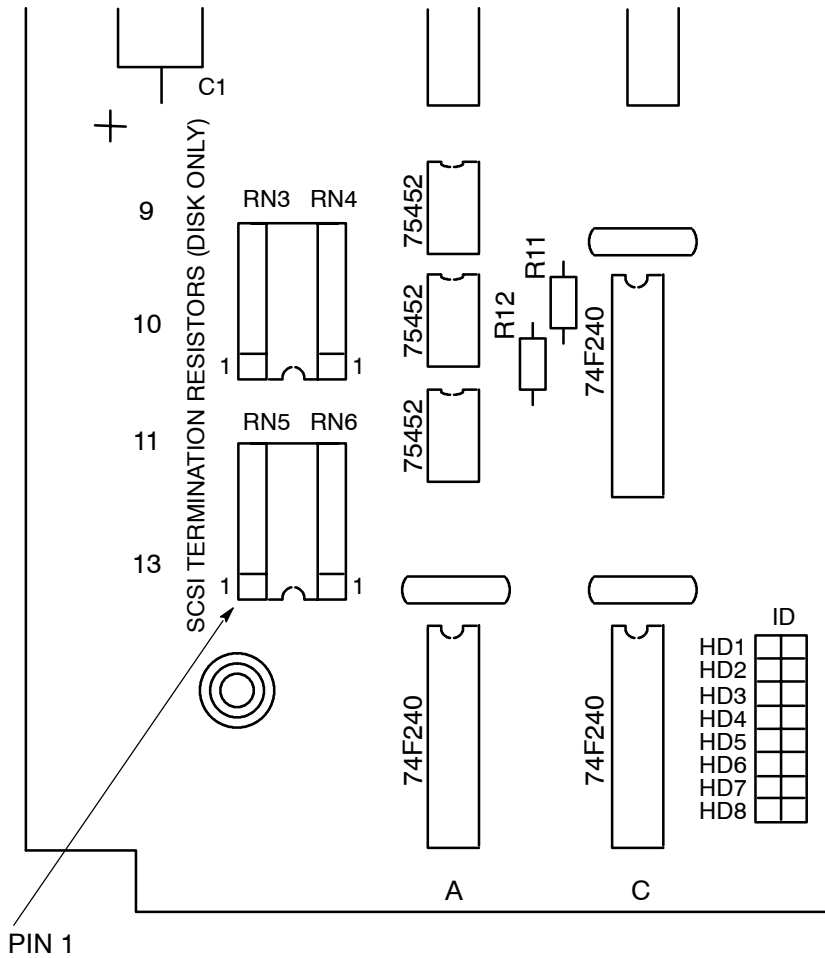

Figure 4.7. SCSI Termination Resistors
- 1 Install 4 SCSI terminator resistors (F/N 19) in the 4 socket locations as shown. A mark (DOT, BAR) at one end of the resistor network indicates Pin1. See Figure 4.7 for details.